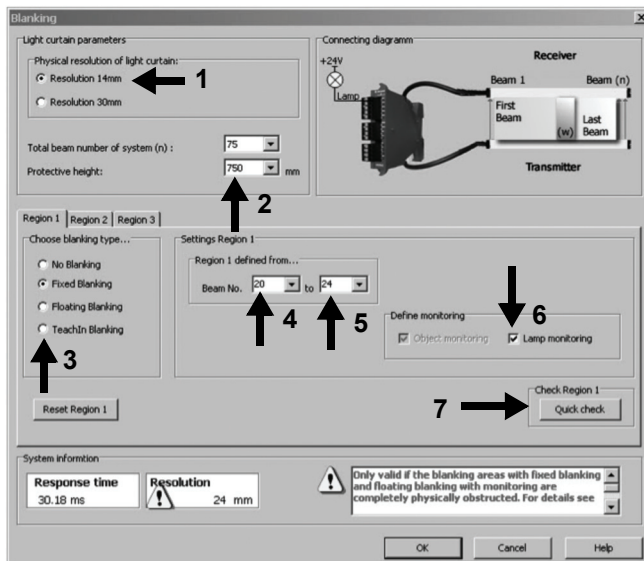

Figure 74: Fixed Blanking window
However, depending on the risk analysis of the application, the monitoring of the indication lamp may be deactivated (#6 Figure 74). Even when deactivated, a connected lamp will still function if blanking is configured, but it will no longer be monitored.
In the case of "Fixed Blanking" (3 – Figure 74), the first (4) and last (5) interrupted beams must be defined and thereafter confirmed with a cursor click on the "Quick check" box (7).